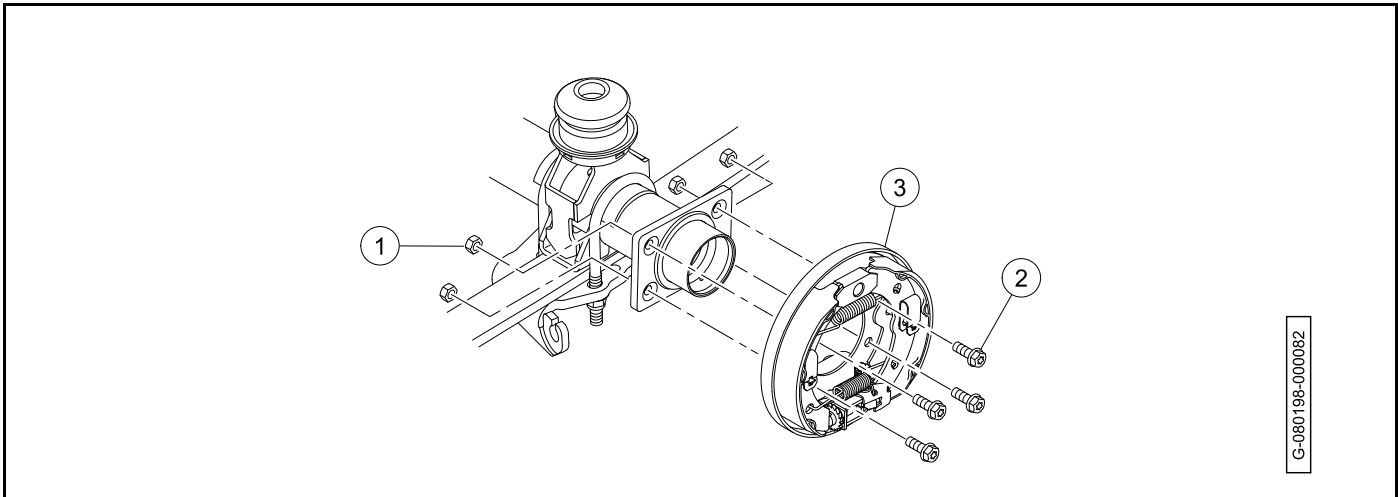

Figure 6-22
18. Remove the bolts (1) and lock nuts (2) (**Figure 6-22**). Discard the lock nuts.